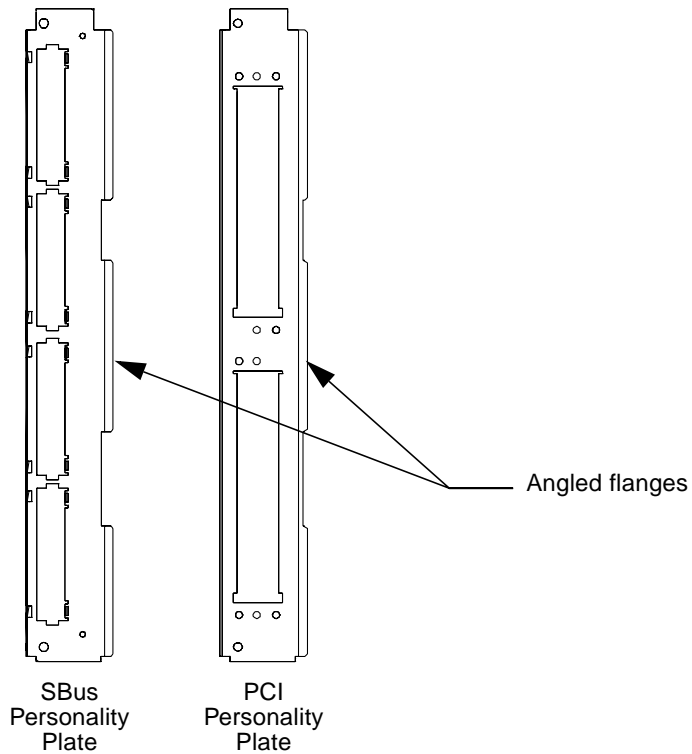

FIGURE 6 Personality Plate Identification
1. Confirm that the type of personality plate that you are installing is correct for your application (FIGURE 6 on page 8).